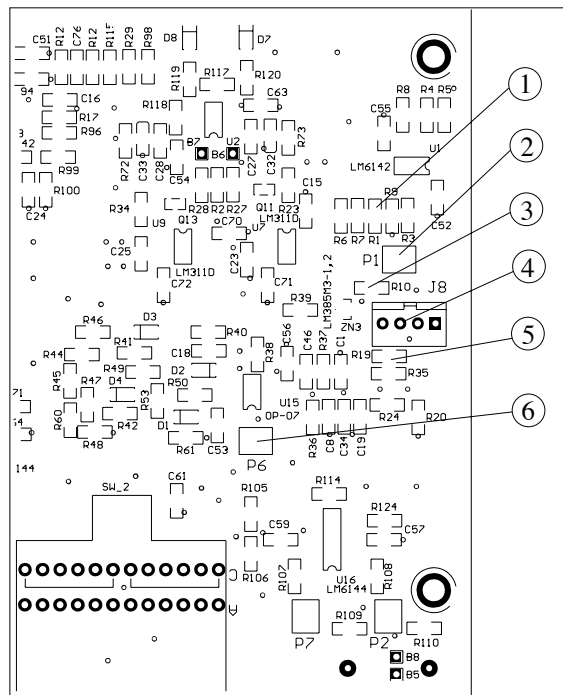

Figure 7.11.: TCU main board (zoom II).
4. Sensing level and range adjustment (refer to figure 7.11)
- a) Replace the cable connected to **J8** (4) with the $100 \pm 1 \Omega$ resistor. *Note:* the precision (gold band on the resistor) is important. Connect one side of the resistor to pins 1 and 2, the other side to pins 3 and 4.
- b) Measure the voltage on **Zn3/R10** (3): the value should be $-V = 1.22$ to $1.25V$.
- c) Measure the voltage at the intersection of **R19/R35** (5): the value should be $V=100mV$, adjustable with the **P1** (2)) knob.